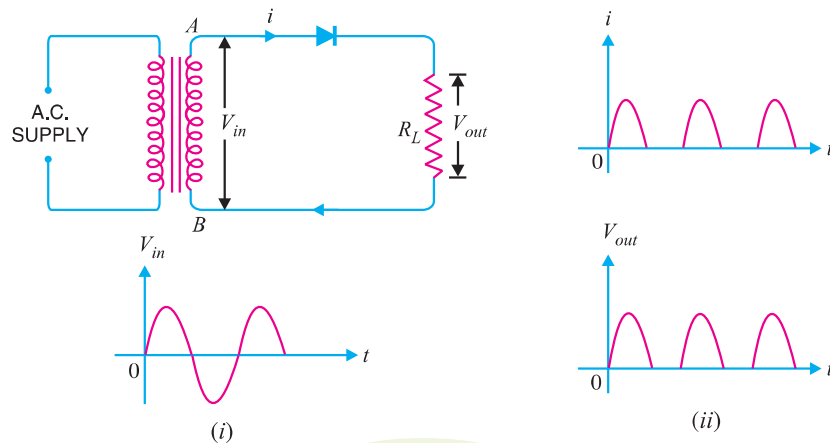

Fig. 6.20
**Circuit details.** Fig. 6.20 shows the circuit where a single crystal diode acts as a half-wave rectifier. The a.c. supply to be rectified is applied in series with the diode and load resistance  $R_L$ . Generally, a.c. supply is given through a transformer. The use of transformer permits two advantages. Firstly, it allows us to step up or step down the a.c. input voltage as the situation demands. Secondly, the transformer isolates the rectifier circuit from power line and thus reduces the risk of electric shock.
**Operation.** The a.c. voltage across the secondary winding  $AB$  changes polarities after every half-cycle. During the positive half-cycle of input a.c. voltage, end  $A$  becomes positive *w.r.t.* end  $B$ . This makes the diode forward biased and hence it conducts current. During the negative half-cycle, end  $A$  is negative *w.r.t.* end  $B$ . Under this condition, the diode is reverse biased and it conducts no current. Therefore, current flows through the diode during positive half-cycles of input a.c. voltage only ; it is blocked during the negative half-cycles [See Fig. 6.20 (ii)]. In this way, current flows through load  $R_L$  always in the same direction. Hence d.c. output is obtained across  $R_L$ . It may be noted that output across the load is pulsating d.c. These pulsations in the output are further smoothed with the help of *filter circuits* discussed later.